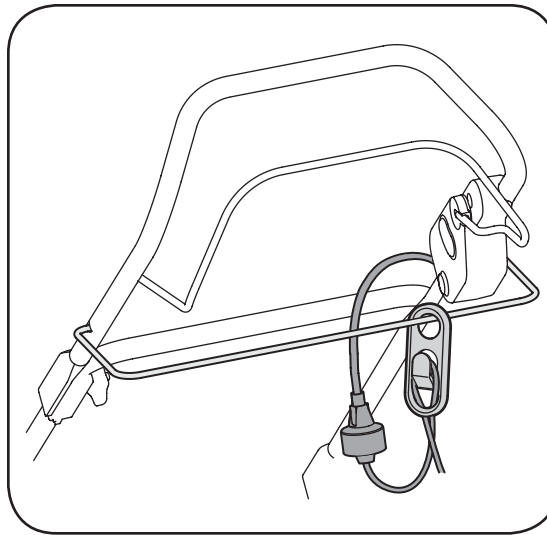

Figure 4-2
**NOTE:** Connect your extension cord to the mower as instructed in the Set Up section prior to plugging your extension cord into an electrical outlet. Refer to Figure 4-2.